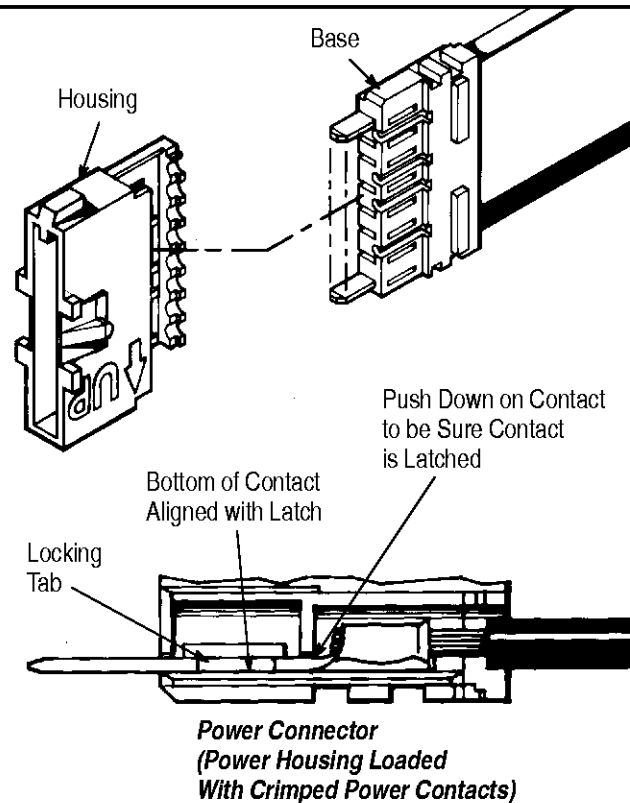

Figure 2
2. Insert contact into base until the locking tab is bottomed in base. The latch of the base must catch over the contact, as shown in Figure 2. Be sure contact is in straight alignment with circuit cavity.